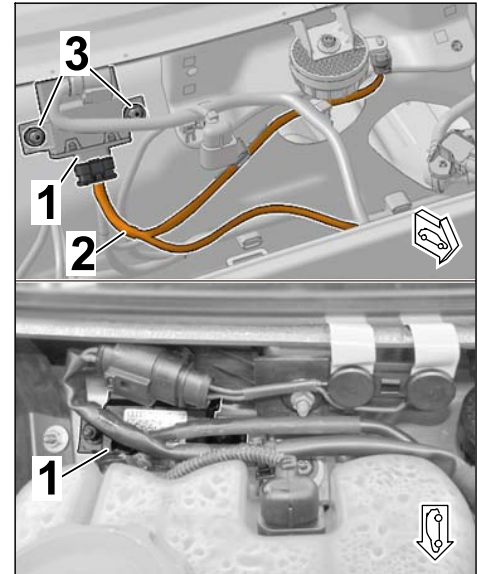

Figure 18
- 2.2 Fit engine noise control unit (⇒ *Figure 18*)
2.2.2 Position engine noise control unit on M6 studs (2 x) in the plenum panel and secure with two M6 hexagon nuts (\Rightarrow Figure 18).